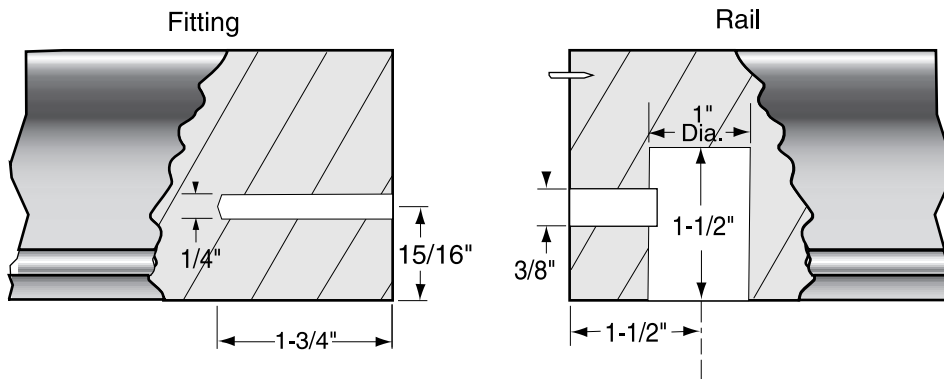

Fig. 3-7 Drilling holes in fitting and rail for joining
2. Drill 1-inch diameter hole in the bottom of the rail on the centerline, 1-1/2-inch from the end of the rail. This hole should be 1-3/4-inch deep. Please note Fig. 3-7 here.